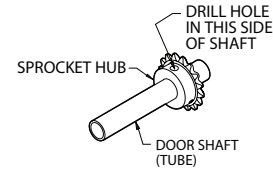

Figure 6A
- 1) Use non-threaded hole in door shaft sprocket as a guide and drill a 3/8" diameter hole through one side of the door shaft. **Fig. 6A.**